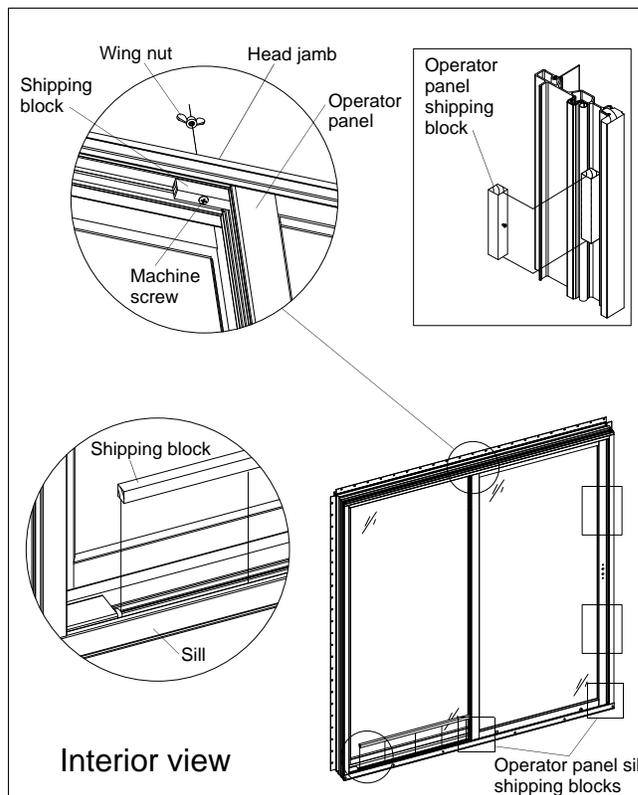

Figure 1
1. From the interior side of unit, remove wing nut, machine screw and shipping block from the head jamb. Also remove shipping block from the sill between operator panel and stationary side jamb. Open operator panel and remove shipping spacers from installation screw holes in the locking jamb. Remove shipping blocks under the operator panel, one per side. Slide the panel to reveal the blocks. (3W OXO doors will have shipping blocks applied to the operator panel with an adhesive tape, simply remove.) See figure 1.